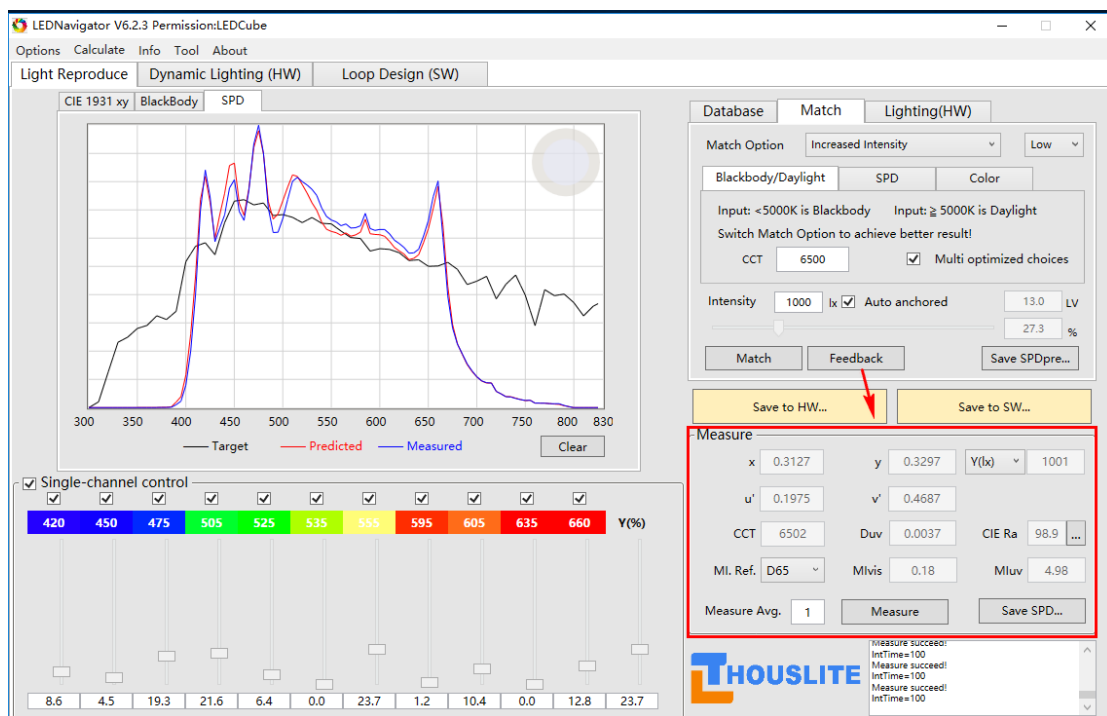

Fig. 6.4 Measured result after first *Feedback*
- 8) Press *Feedback*, Fig. 6.4 shows the measured CCT=6502K, CIE Ra=98.9, MI=0.18, Intensity=1001lx, which is really excellent light quality;